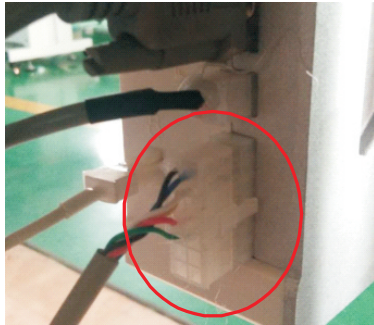

Fig.15 Before the 373D sensor is installed
Installation method: Installation method: Before installing, find out the trimming electromagnet of the button attaching machine Fig. 15, then push the wire aside, connect the button feeding sensor of the feeder with the wiper signal cable, then insert jack. See Fig. (17)(18).